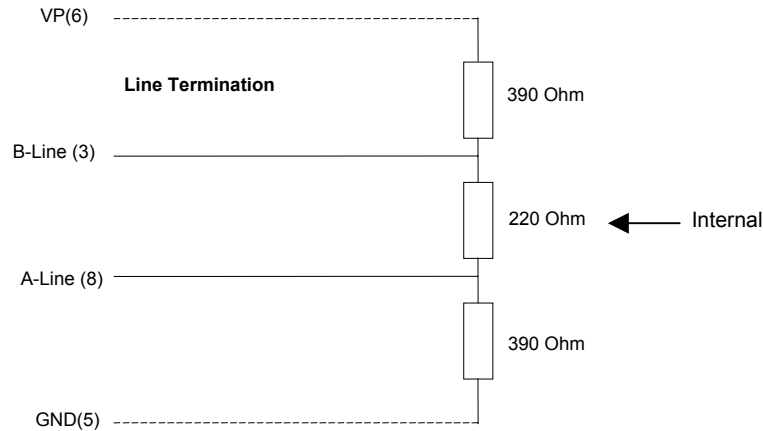

Figure 4 – Termination
- b. It is necessary to terminate both ends of the network. Both terminations must have power to them to insure proper operation of the network. Figure 4 illustrates the correct connection for the termination resistors.
NOTE: The above wiring diagram (Fig. 4) is for illustrative purposes only. Cabling and connectors need to be PTO-approved to achieve the desired performance results. See **Section 2.1.3** for recommended part numbers.